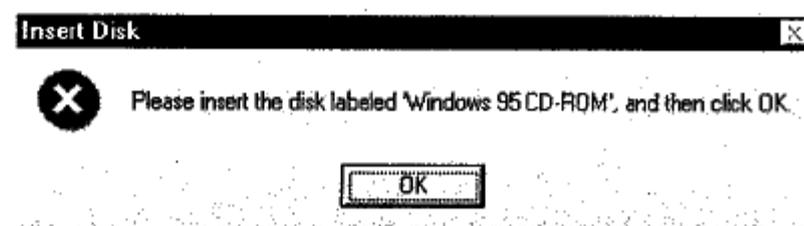

Figure 3-5
7. Windows may attempt to copy part of software from original Windows 95 CD-ROM as shown in Figure 3-5. Please insert the Windows 95 CD-ROM, and then click "OK".